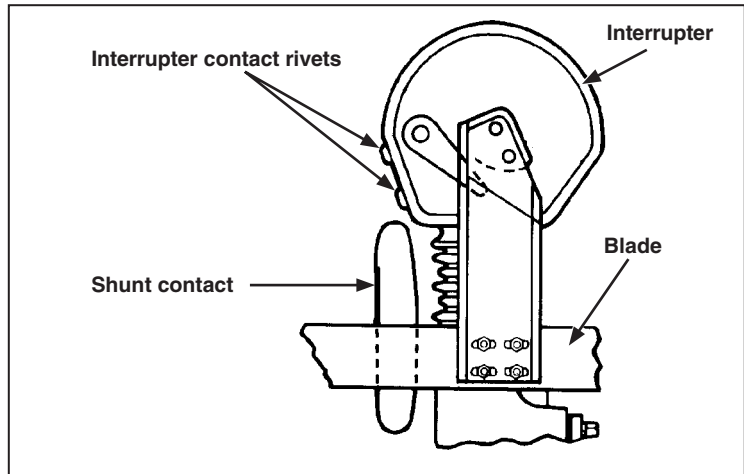

Figure 46. The blade assembly moving in the opening direction.
- (c) Move the blade in the *opening* direction and verify each blade shunt contact firmly engages its respective interrupter contact rivets before the blade contacts disengage from the stationary main contact assemblies. See Figure 46. The shunt contacts may be bent, as required to conform to these conditions.